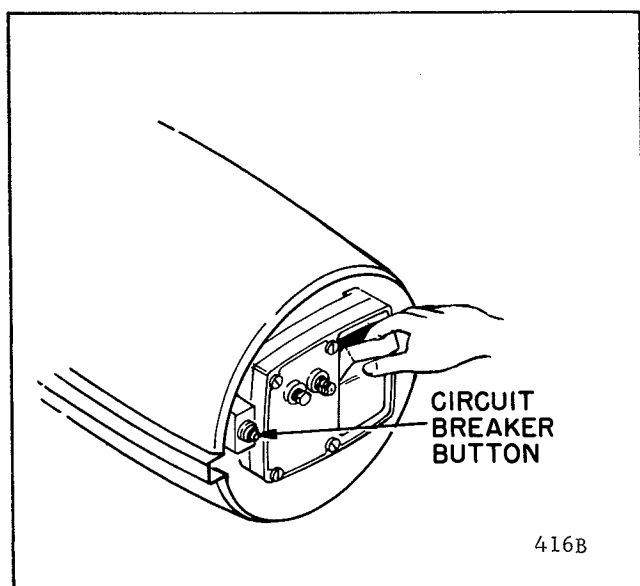

Figure 5. Removing Intake Air Filter
1. Check and clean the intake air filter often. The filter needs cleaning if you can see a film of dust on it. It will need cleaning more often if the heater is operated in dusty air. See Figure 5.